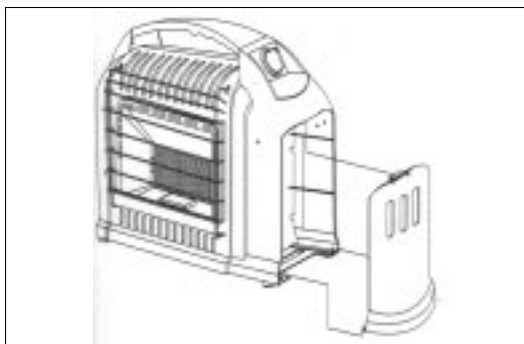
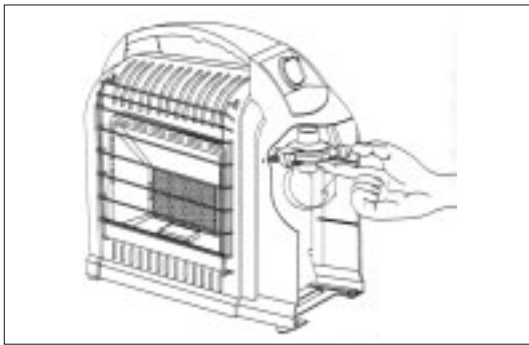

Fig. 1
Fig. 2
- Remove cylinder enclosure door as shown in Fig. 1. Lift and rotate gas pressure regulator upwards as shown in Fig. 2.